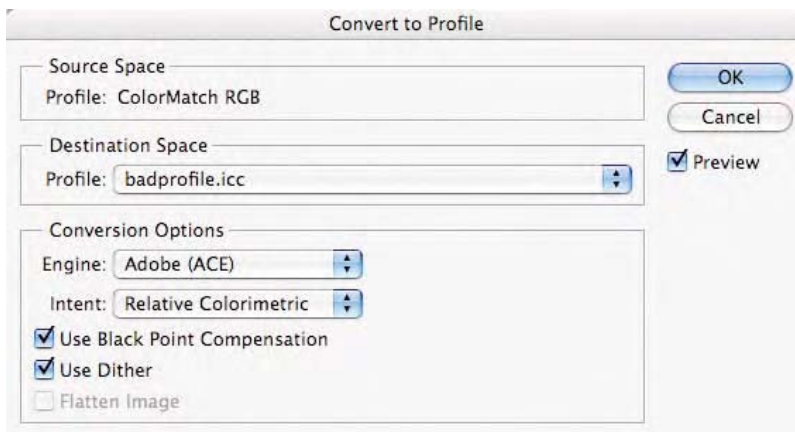

Fig. 9-13-2 The **Convert to Profile** command showing the **badprofile.icc** profile selected in the **Destination Space** pop-up menu.
2. Choose **Image-Mode-Convert to Profile** in Photoshop CS or **Edit-Convert to Profile** in CS2 as seen in Fig. 9-13-2.